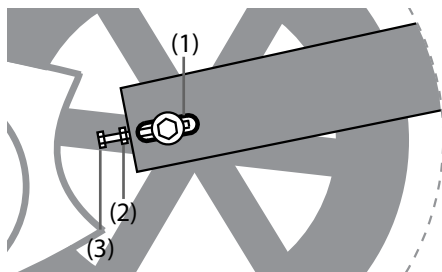

Figure 20
2: Loosen the bolts (1) on both sides of the cycle with a 19 mm wrench, see figure 20.
3. Loosen the nuts (2) on the
counter bolt on both sides of the cycle using a 10 mm wrench, see figure 20.